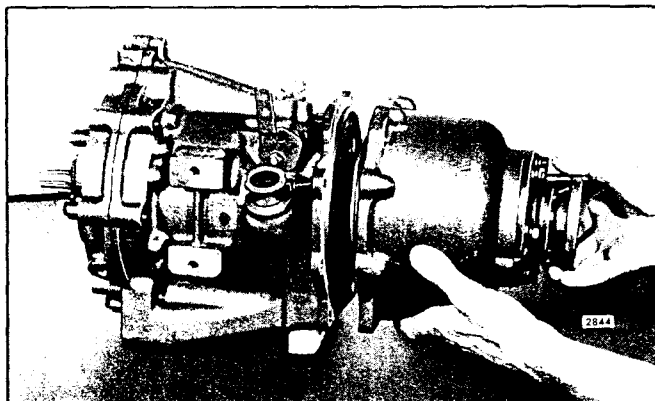

Fig. 12 - Removing or Installing Reduction Gear Assembly from/on Reverse Gear Assembly
6. Tap the side of the drive flange with a plastic hammer to loosen the reduction gear assembly from the reduction gear adaptor, then lift the reduction gear assembly away from the reduction gear adaptor as shown in Fig. 12. Remove the gasket from the adaptor or the gear housing.